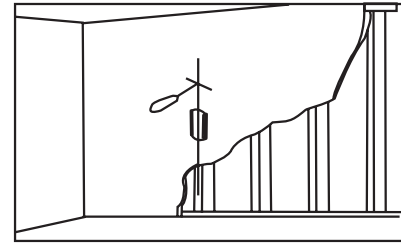

Fig 2b
Wooden wall (Fig 2b):
Using a awl or nail to make where the nails are located, as shown as fig.2b. Pre-drill these holes with a 5mm drill bit to at least 80mm in deep hole. Please make sure these holes are level and located at center. Use wall mount as a template to mark the location of other three holes and drill the same holes. Fix the wall mount to the wall with 4 long bolts (I) and washers (K).